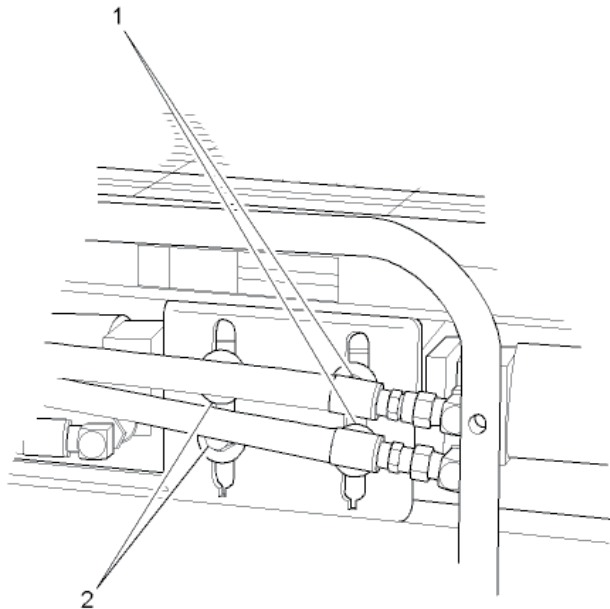

Figure 5-13. Auger Chain Adjusting Bolts
1. The auger chains should be just snug, not loose. To tighten chains, loosen bolts (**Figure 5-13,1,2**) in slots provided for take up.
2. To adjust chains for the right auger, use Right Auger Chain Adjuster Bolts (**Figure 5-13,1**). For left auger adjustment, use Left Auger Chain Adjuster Bolts (**Figure 5-13,2**).